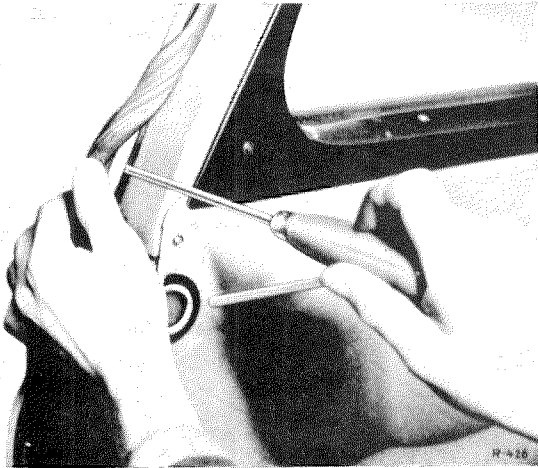

Fig. 72—19/1
1. Push aside the weatherstrip at the front door just above the door lock, so that the fixing screw at the end of the garnish molding becomes accessible. Unscrew the fixing screw (Fig. 72—19/1).